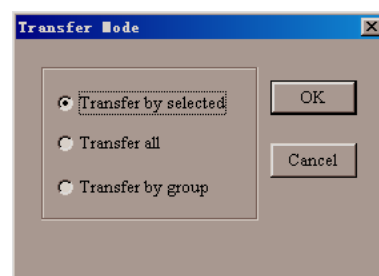

Fig. 6-4
- Select **PC-> SC** button in **TRANSFER DATA** menu, and will show the dialog box as fig. 6-4.